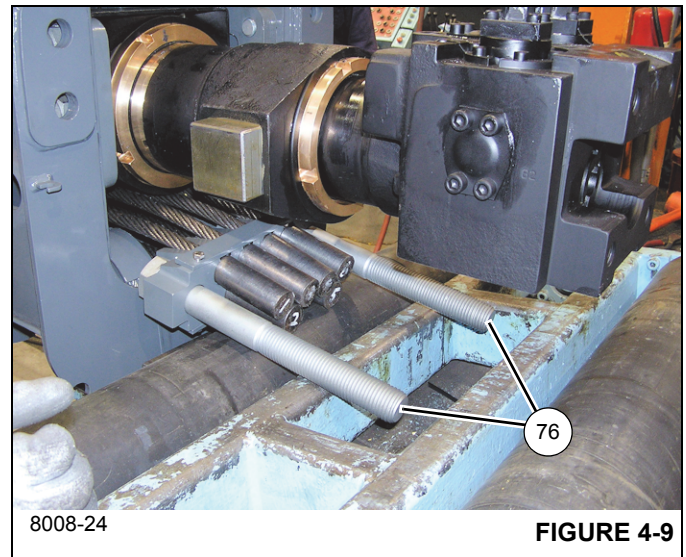

FIGURE 4-9
39. Remove the two bolts (76) from the anchor plate (73) (see Figure 4-9).